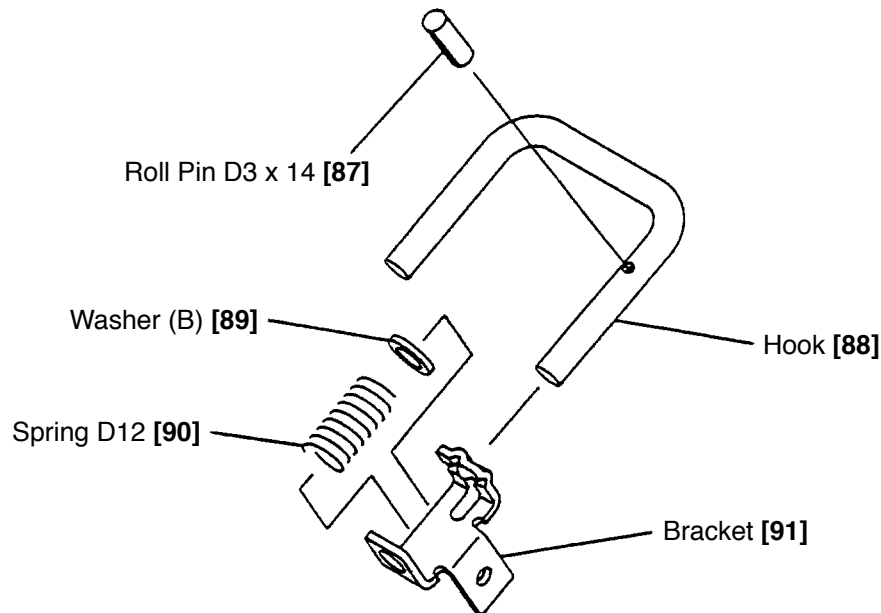

Fig. 60
(3) Disassembly and reassembly of hook and the related parts (Fig. 60)
- Mount the Hook [88], Washer (B) [89] and Spring D12 [90] to the Bracket [91].
- Drive the Roll Pin D3 x 14 [87] into the Hook [88] in the direction as shown in Fig. 60.